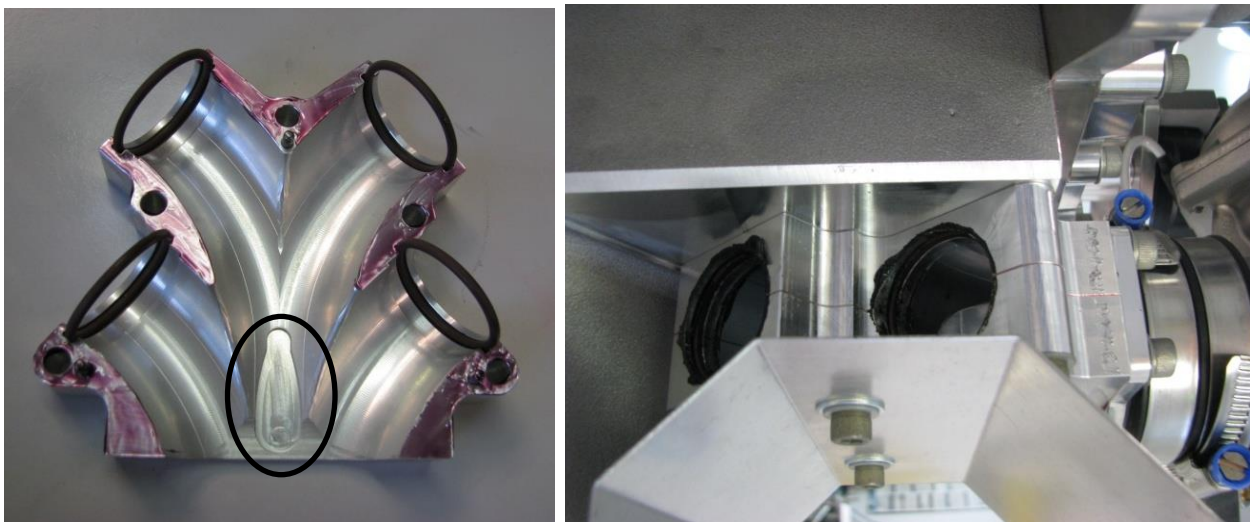

Figure 197 – Induction Manifold Installation
- Fit the diffuser(s) inside the plenum chamber halves. 2200 and most 3300 engines both use an “airfoil” diffuser shaped as circled in Figure 197 (Left). Later 3300 engines use two round diffusers.